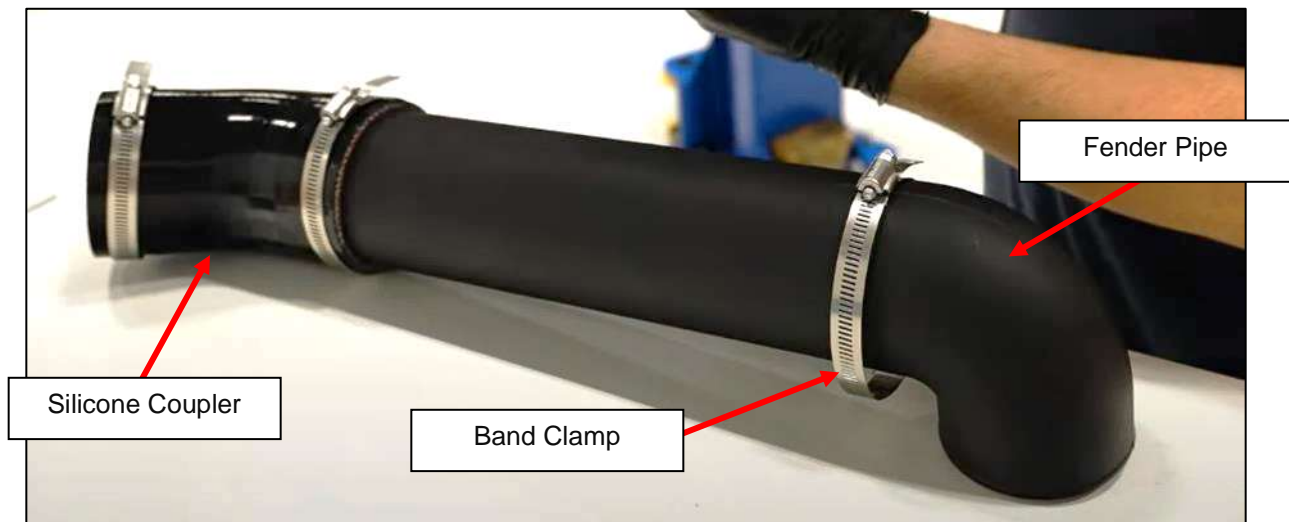

Figure 16
26. Locate the Fender Pipe, Silicone Coupler and (3) three Band Clamps. Install the Silicone Coupler onto the Fender Pipe, and loosely secure with one Band Clamp. Loosely install one more Band Clamp on each side of the assembly as shown below. *Figure 16.*